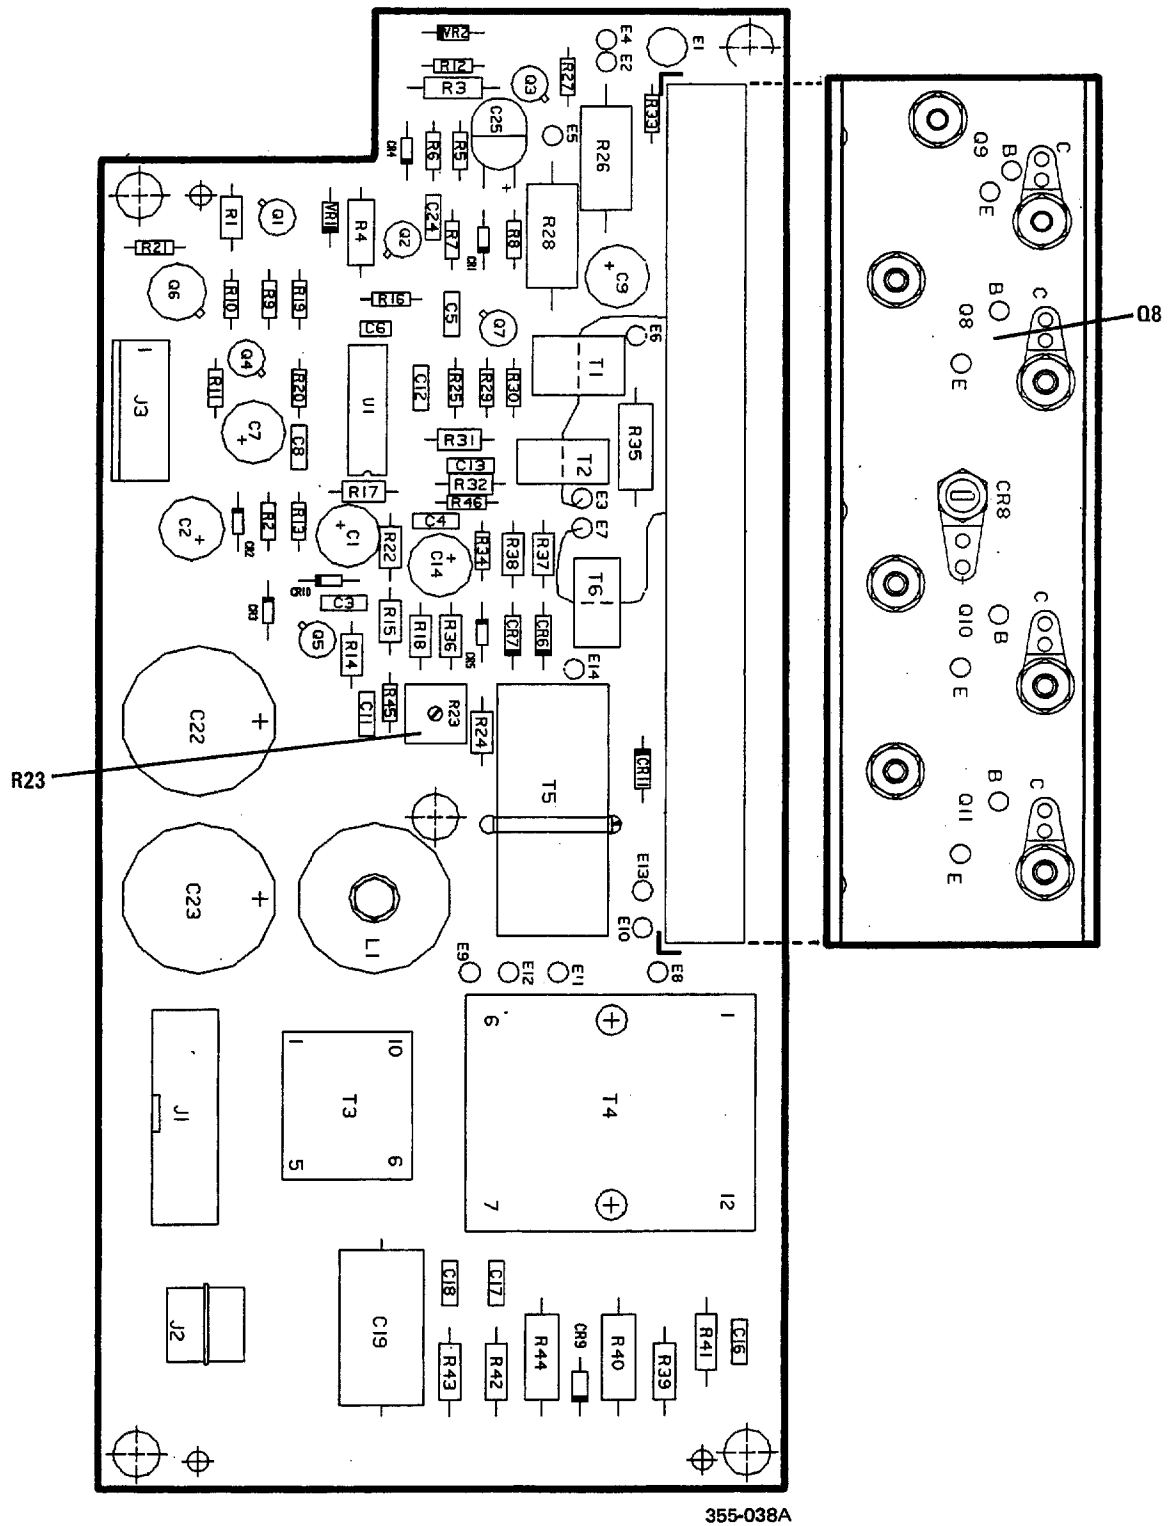

Figure 6-2. Low Voltage Power Supply PWB Assy
- (e) Key the system and adjust R4 (on the Output Filter PWB Assy -- see figure 6-2) for a null (may go into negative region) on the multimeter.
(2) R7, Forward Power Sample**NOTE**
d. Low Voltage Power Supply PWB Assy. A4 (Fig. 6-2)
(a) Connect Digital Voltmeter to the collector of Q8 (see figure 6-2).